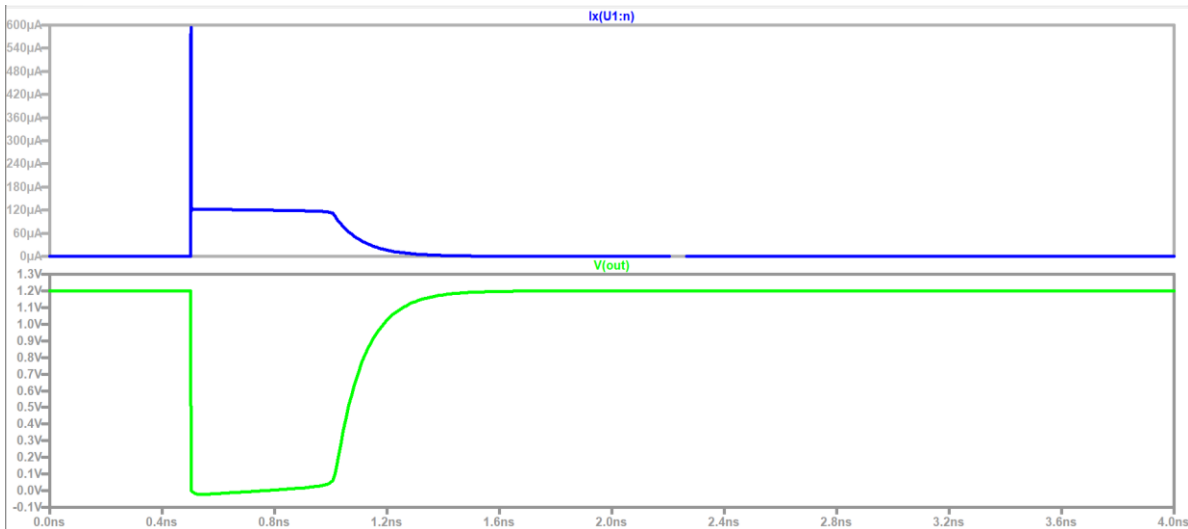

Fig. 15. Simulation results for LET=30 MeVcm²mg⁻¹
18. The simulation results for $LET = 30 \text{ MeVcm}^2\text{mg}^{-1}$ are shown in Fig. 15. The SET current pulse (Ix (U1: n)) as well as the output voltage (V (out)) are shown. When the transistor is in the *off* state the output is a logic 1. Due to the appearance of SET, the transistor switches *on* for a short time and the signal at the output goes to the logic 0.